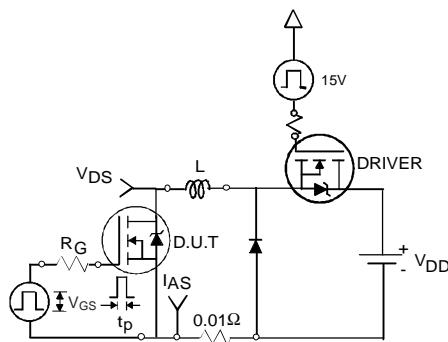

Fig 12a. Unclamped Inductive Test Circuit
- ③ Pulse width $\leq 400\mu\text{s}$; duty cycle $\leq 2\%$.
- ④ $C_{\text{oss eff.}}$ is a fixed capacitance that gives the same charging time as C_{oss} while V_{DS} is rising from 0 to 80% V_{DSS} .
- ⑤ Limited by $T_{J\text{max}}$, see Fig.12a, 12b, 15, 16 for typical repetitive avalanche performance.
- ⑥ This value determined from sample failure population. 100% tested to this value in production.
3. Equation below based on circuit and waveforms shown in Figures 12a, 12b.